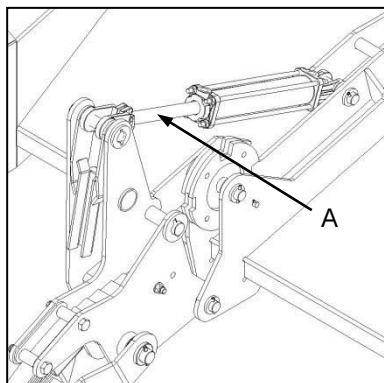

Fig. 5
- ✓ The transport locks may only be engaged if the hydraulic cylinders are fully extended, indicating that the implement is at its maximum height (Fig. 5-A).
- ✓ Die hoofvervoerslot kan gesluit word slegs as die hoofhidrouliese silinder op volle lengte is – wat aandui dat die implement op sy maksimum hoogte is (Fig. 5-A).